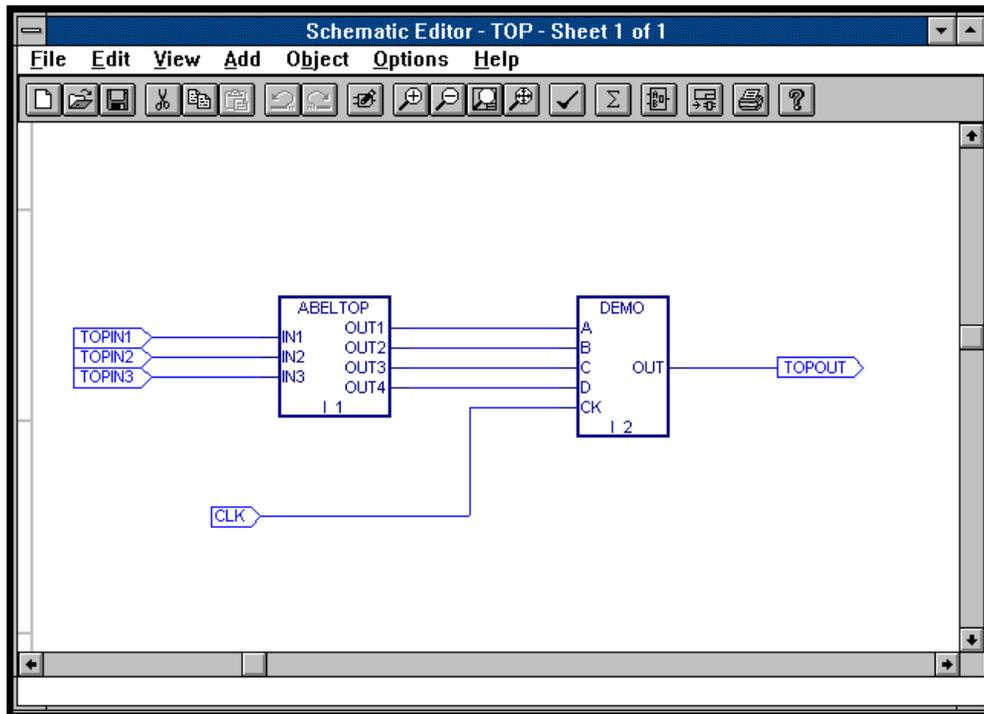

Figure 1-24. Completed Abeltop Design
44. Complete the top level schematic by adding the necessary wires, net names, and I/O Markers to finish the design (Figure 1-24). Refer to the instructions for adding nets and symbols (page 1-15) if you need assistance. When you are finished, save your design and exit the schematic editor.